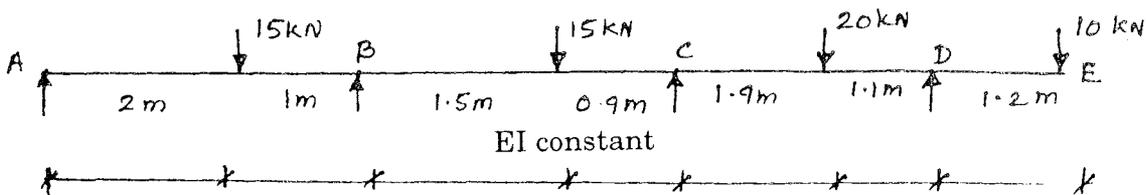

Fig. 6
14. (a) Find the support moments in the continuous beam shown in Fig. 6 if the support at A settles by 10 mm. $E = 22000 \text{ kN/cm}^2$, $I = 5000 \text{ cm}^4$. (Moment distribution method)